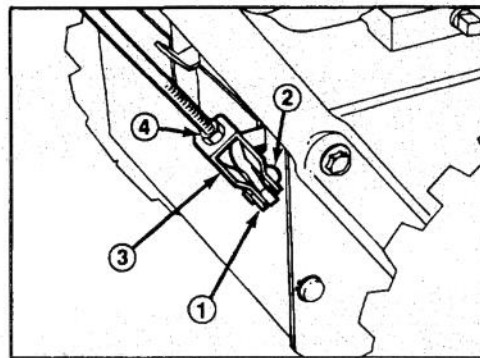

Figure 21
2. Remove cotter pin and clevis pin securing clevis to lower control rod (Fig. 21).